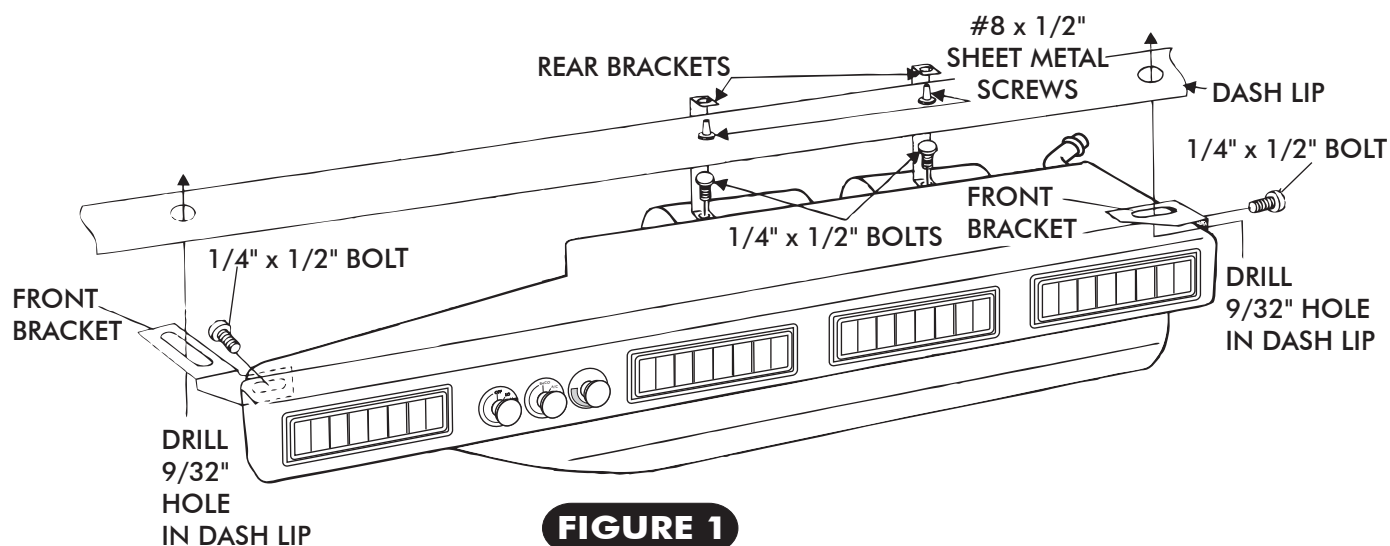

FIGURE 1
- ATTACH EVAPORATOR BRACKETS TO EVAPORATOR (SEE FIGURE 1).
- POSITION EVAPORATOR WITH BRACKETS UNDER DASH. MARK AND DRILL (2) 9/32" DIAMETER HOLES UNDER THE LIP OF THE DASH.